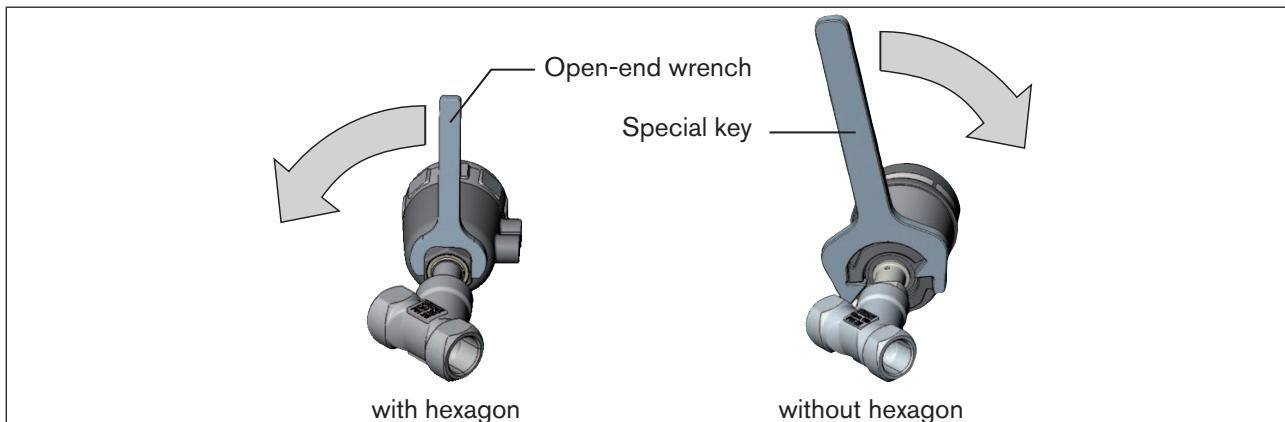

Figure 25: Rotating with special key / open-end wrench
- Rotate the actuator module in the specified direction only (see “Figure 25”) !